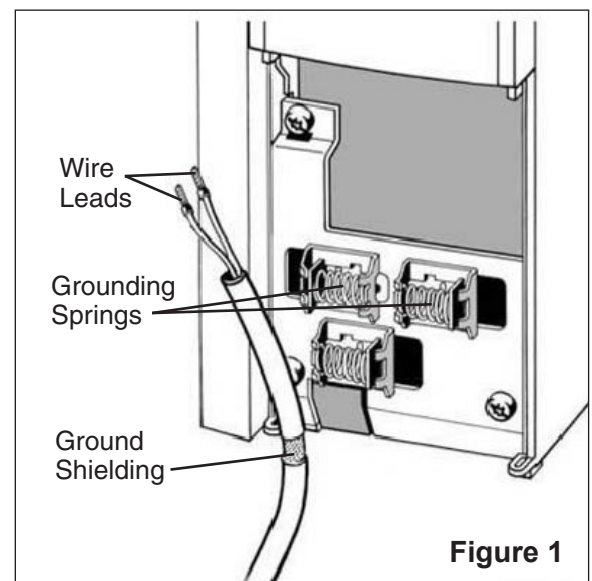

Figure 1
3. Break the outer flow meter wiring insulation 3 in. (2.5 cm) from the point of connection, exposing the ground shielding. Install the exposed ground shielding into the grounding springs. See **Figure 1**.